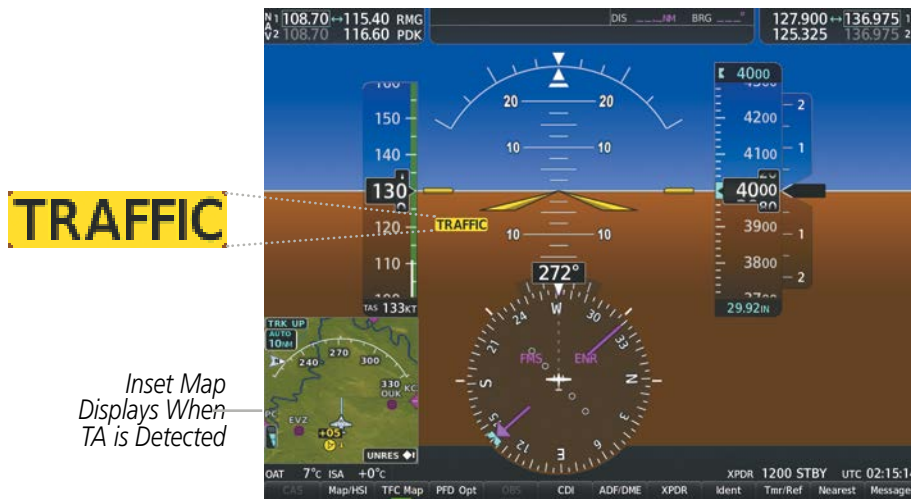

Figure 6-69 Traffic Annunciation (PFD)
- A ‘TRAFFIC’ Annunciation appears at the right of the airspeed on the PFD, flashes for five seconds, and remains displayed until no TAs are detected in the area (Figure 6-69).